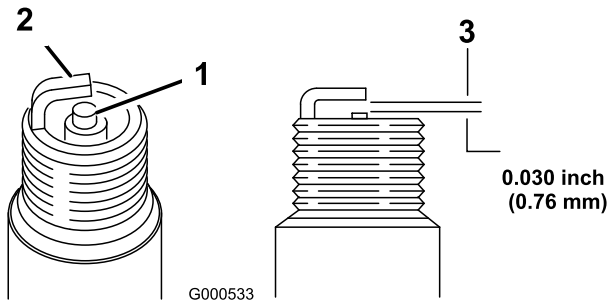

Figure 32
11. Set the gap on the plug to 0.76 mm (0.030 inch) (Figure 32).